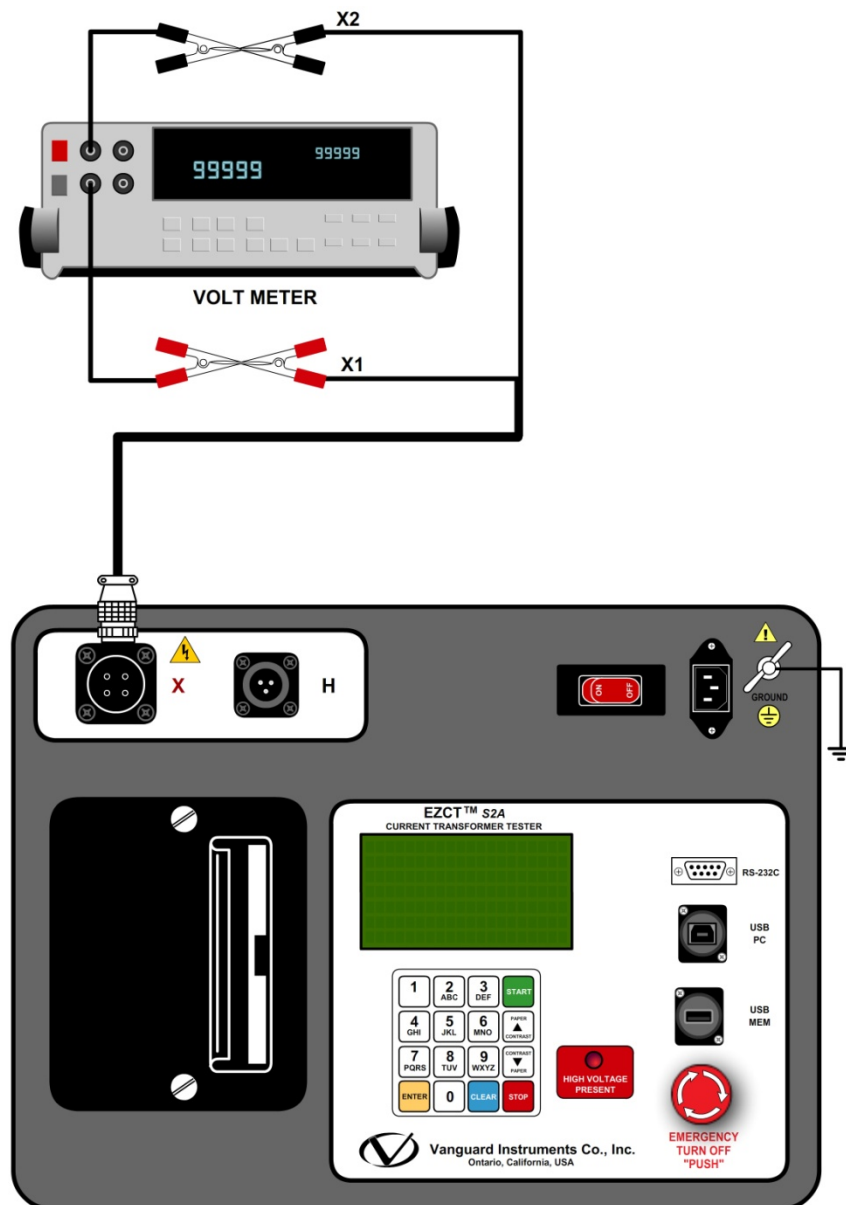

Figure 15. EZCT S2A V_x Verification Test Connections
- Connect the X cables to an RMS volt meter as shown in Figure 15.